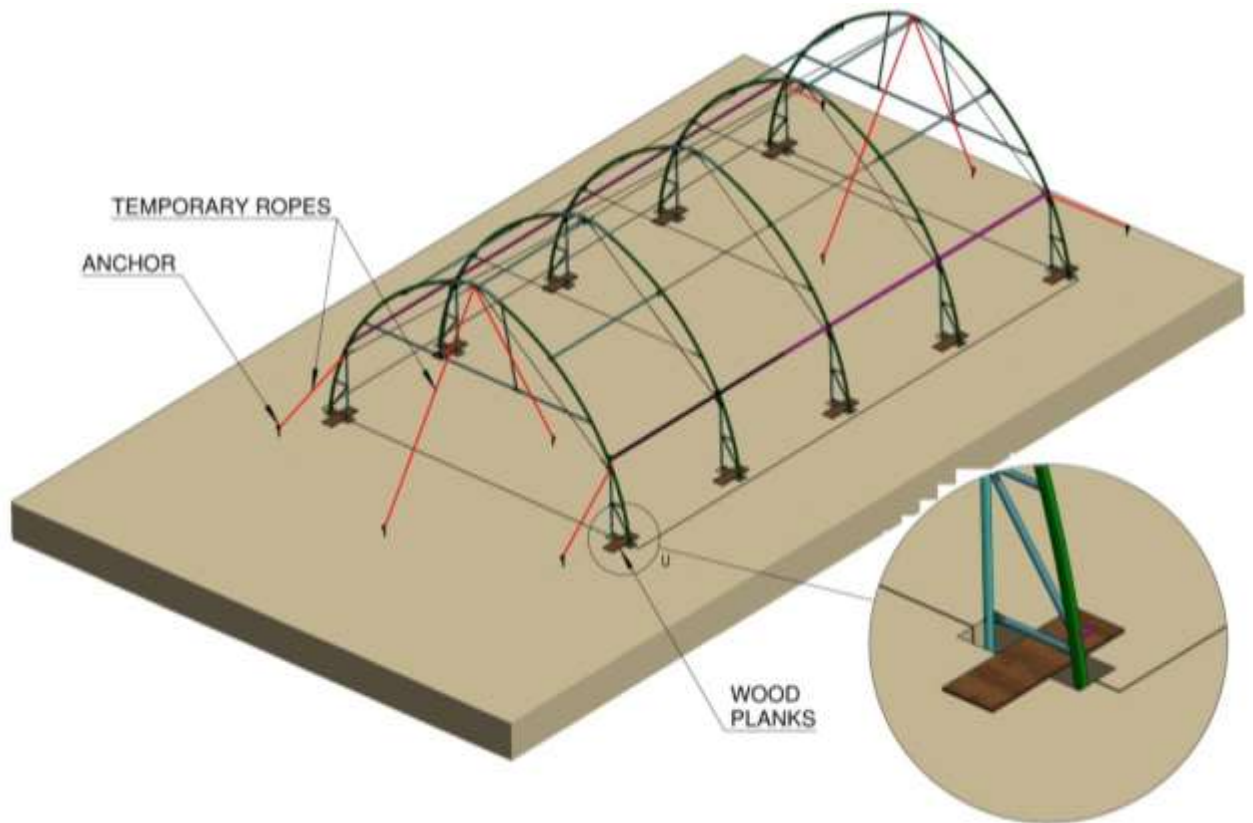

Figure 16: Securing the arcs. Note the wood planks
- Heights of arcs: align the first hole above ground with the string. Use wood planks (Figure 16).
6. Add short ropes lengthwise and width-wise to first and last arcs at 1/3 height to stabilize (Figure 16).